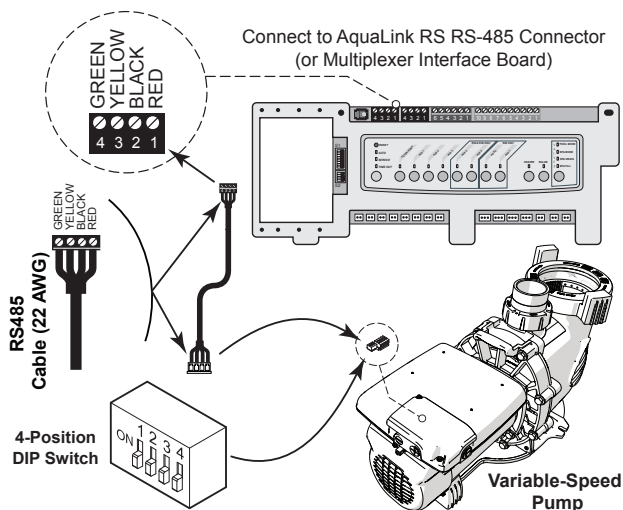

Figure 4. Wiring AquaLink RS, PDA or Z4
4. Connect the RS-485 cable from the AquaLink through the available compression fitting and route the cable through the motor drive port closest to the connector. See Figure 4.
5. Connect the other end of the cable to an RS-485 connector on the AquaLink RS (or multiplexer interface board), matching wire colors with connector positions. See Figure 4.
- Connect the other end of the cable to the controller. Match the colors of the wires with the appropriate connector positions. See Figure 4.
- As shown in Figures 4 and 5, the four position dip switch serves two functions: it selects the pump address, and it determines what type of controller will be used with the pump.